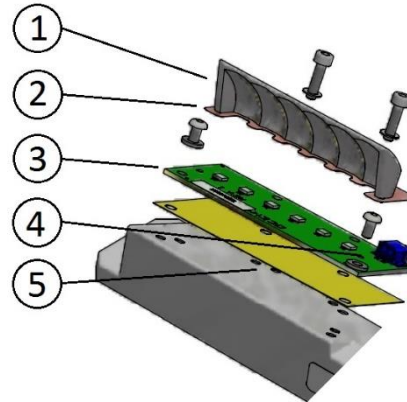

Figure 25 – LED Module Replacement
- disconnect the power supply connector from the LED module (Figure 25 – n°4)
- remove the LED module (Figure 25 – n°3) and the relevant reflector (Figure 25 – n°1) from the mounting plate unscrewing the two screw HSCS M3x12
- check that the thermal interface (Figure 25 – n°5) is placed under the LED module and right-positioned
- check that the Kapton insulating sheet (Figure 25 – n°2) is placed over the LED board is lying down and right-positioned
- reconnect the power supply connector (Figure 25 – n°4) to the LED module